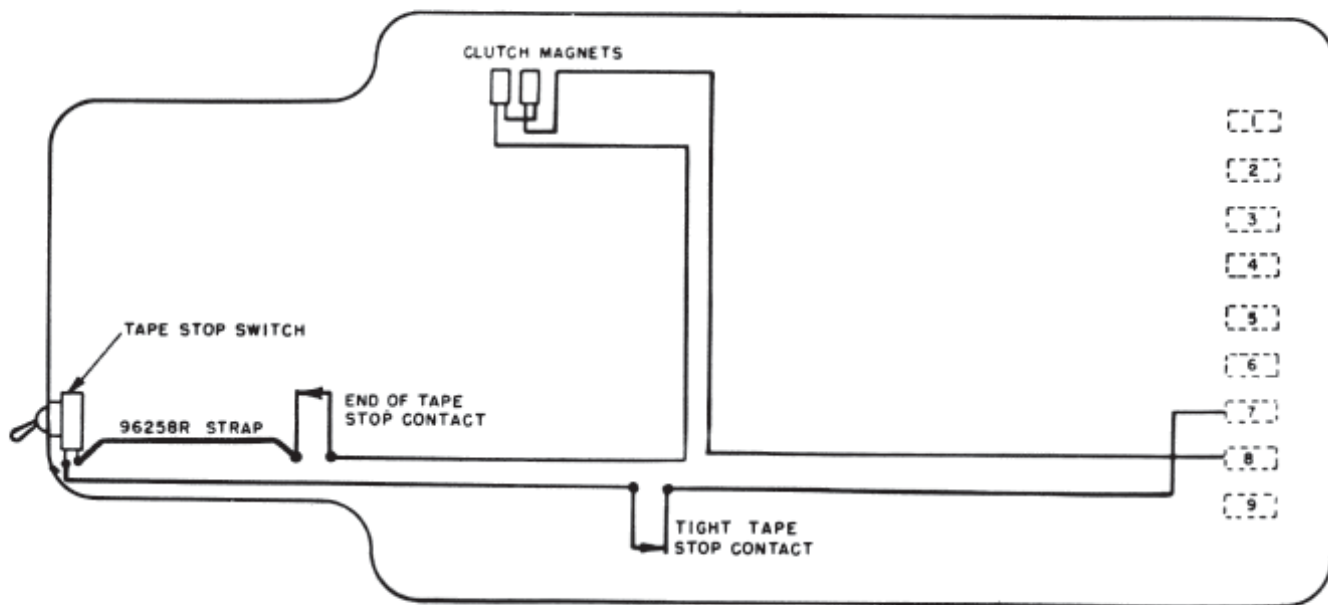

FIGURE 2
(1) Unsolder the wire connected to the upper terminal of the toggle switch and connect this wire to the upper terminal of the 97467 contact bracket (assem). Connect the 96258R strap between the remaining terminal of the contact bracket and the upper terminal of the toggle switch. See Figure 2.
(2) For the 98137 set of parts, mount the 98069 tape guide wire and the two 7002 washers under the heads of the two 1160 screws used to secure the top plate. The horizontal portion of the tape guide wire should be below the level of the top plate.